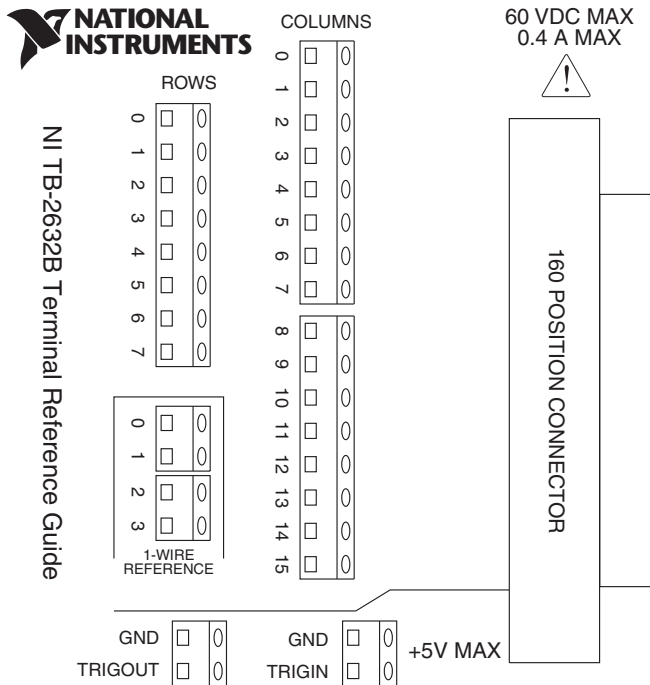

Figure 2. NI TB-2632B Terminal Reference
6. Connect the cables to the terminals by inserting the stripped end of the cable into the terminal. Secure the connection by tightening the screw for each terminal. When connecting the signals, refer to the connection diagram in Figure 2.